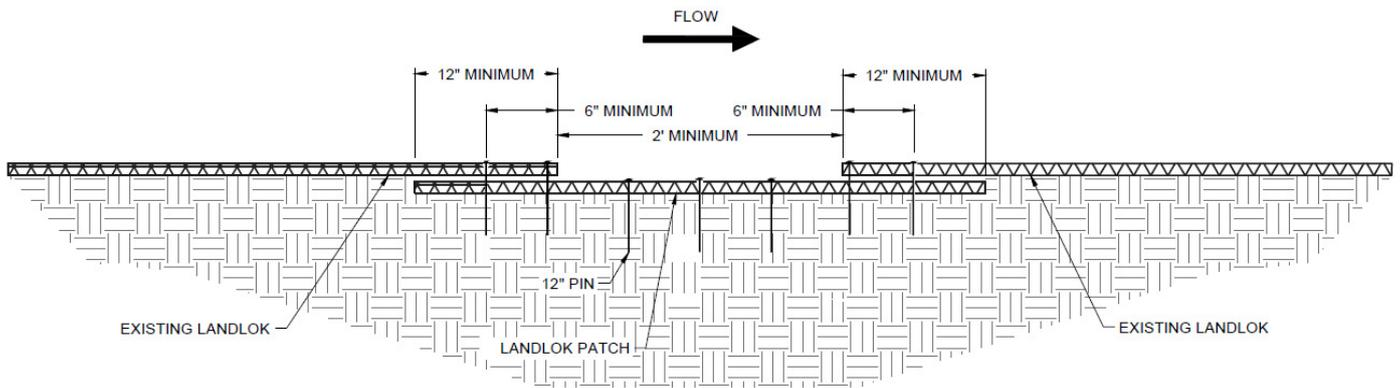
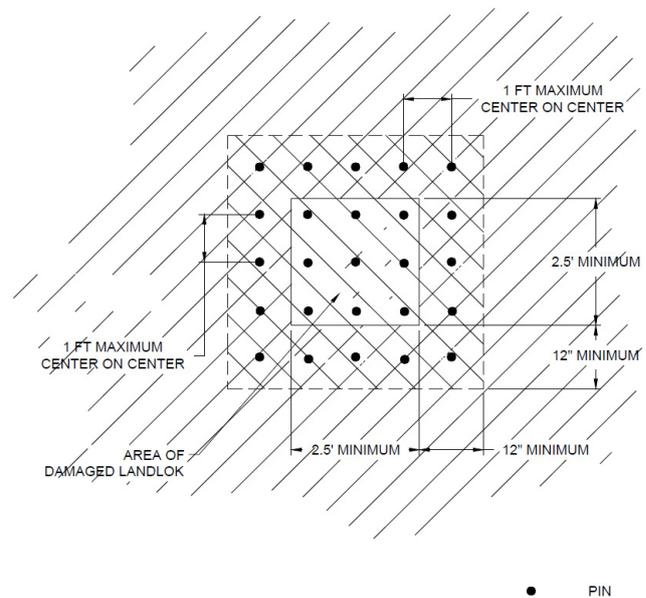

Figure 22: PROPEX Landlok TRM Patch Cross Section
Figure 23: PROPEX Landlok TRM Patch Plan View
3. To repair **PROPEX** Landlok TRM, cut out and remove damaged areas in a square configuration a minimum size of 2 ft by 2 ft (0.6 m x 0.6 m). Remove all vegetation and debris atop of **PROPEX** Landlok TRM. Loosen the top 1 in to 2 in (25 mm - 50 mm) of soil in the patch area then seed. The subgrade of area to be patched shall be prepared to be smooth and uniform and transition smoothly into the in-situ area. Cut a square **PROPEX** Landlok TRM patch a minimum of 12 in (305 mm) greater than the damaged area for all four sides of the patch. Overlap the patch area in all directions a minimum of 12 in (305 mm). The patch overlaps shall be tucked under the existing damaged **PROPEX** Landlok TRM material (Figure 22 and Figure 23).